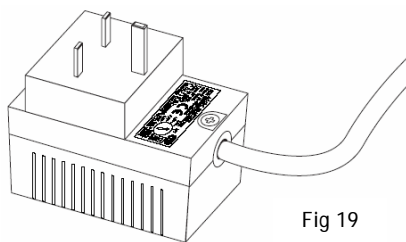

Fig 19
- Short roof terminal part number A9266100 Fig 19 part B
- Chimney closure plate part number A 9240000 Fig 19 part A
- Two stainless steel tubes one 100 mm - length 500 mm and one 150 mm - length 500 mm part number A 9273900 Fig 19 part E and F